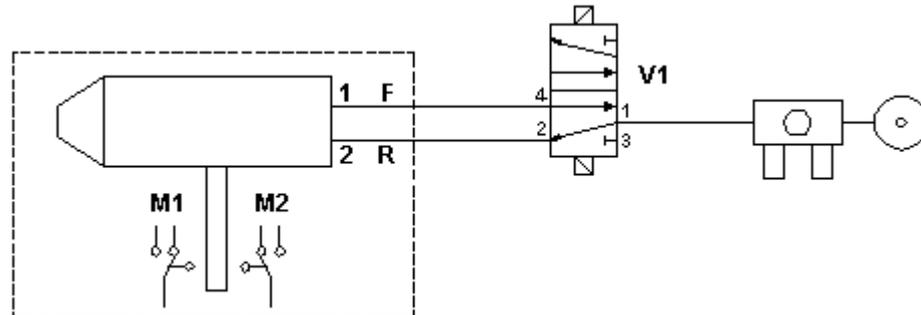
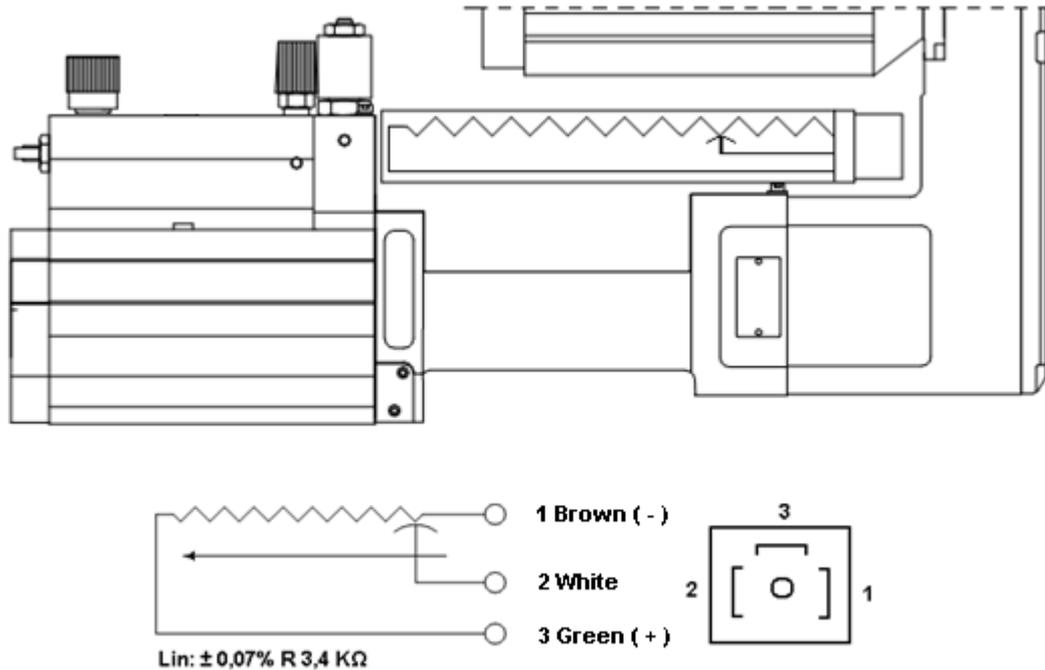

Fig. 6.
Fig. 10.
8. If the unit is delivered with electrical switches, proximity switches or a linear transducer (chosen when ordering), valve V1 shall be electrically controlled type of 4-way, 2-position type. The dimension of the valve shall be 1/8" when the valve is used for a single unit. See Fig. 6.
10. Connection of electrical limit switches for sensing the position of the feed spindle. Max. capacity 6A at 125 or 250V AC. The unit is delivered with both microswitches connected to a single cable with a length of 2 meter (6.56 Ft). Connection, see Fig. 6. and 8.
11. Connection of proximity switches for sensing the position of the feed spindle. The unit is delivered with both switches and with cable lengths of 2 meter (6.56 Ft). Connection, see Fig. 6 and 9.
The linear transducer is a potentiometer, which is delivered with a 2 meter (6.56 Ft) long cable connected to the potentiometer with a PG9 connector, DIN 43650. To facilitate connecting the cable, the leads are marked with their respective numbers as illustrated in Fig. 10. below. Max. voltage for the linear transducer is 40V DC. Connection, see Fig. 6 and 10.
When the unit is delivered with a linear transducer, the hydrocheck is fitted with a 2-way valve (24V DC) for the transition from rapid advance to working feed. This valve is normally closed, and for rapid advance it shall be supplied with current at the same time as maneuvering valve V1 in Fig. 6. When the output signal from the position sensor matches the set value for the transition to working feed, the current to the 2-way valve is broken. If the unit is fitted with a linear transducer, the external control system must have an analogue input connection to receive the analogue signal from the position sensor.